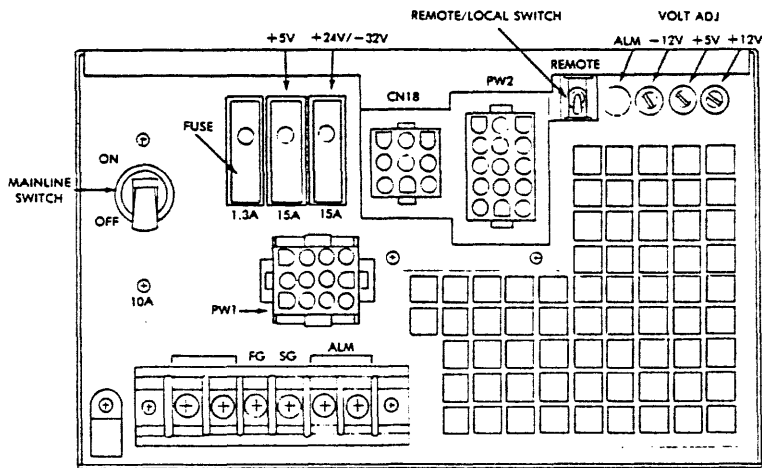

Figure 7-3. Power Cable Connection for 9798 (50 Hz)
The SI 9798 has three power cable connectors. Connect the AC cable connector (PW1) to PW1 on the power supply unit. Connect the DC cable connector (PW2) to PW2 on the power supply unit. Connect the power control connector (CN1) to CN18 on the power supply unit (see Figures 7-3 and 7-4).
2. **Power Supply Unit Ground** FG and SG terminals are provided on the power supply unit (see Figures 7-3 and 7-4). System ground requirements and power distribution will determine whether or not FG and SG are to be connected.